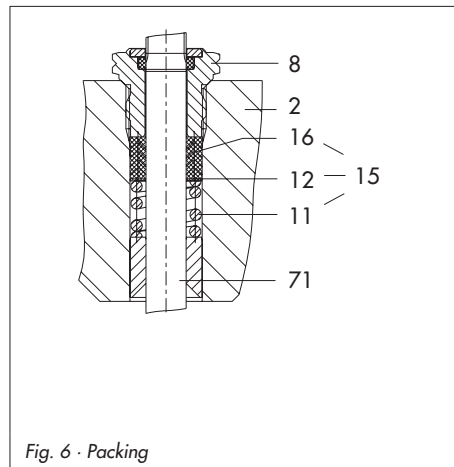

Fig. 6 · Packing
The plug stem is sealed by the metal bellows and the backup packing(15) with spring-loaded PTFE-carbon V-ring packing (Fig. 6).
### Packing (Fig. 6)